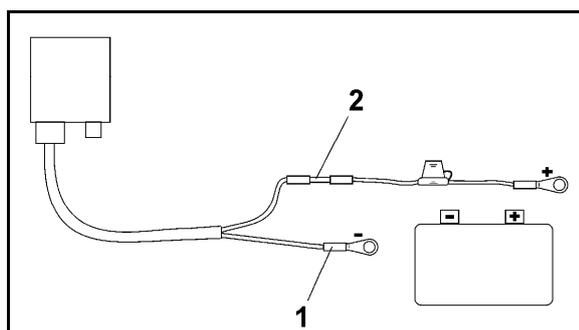

Fig. 4
4. Insert the blue cable core (earth) into loose ring lug (Fig. 4/1).
6. Insert brown cable core (+ 12 volts) into free end of connector (Fig. 4/2).
8. Shrink-fit connector (Fig. 4/2) with heat source (lighter or hairdryer) until the adhesive emerges.